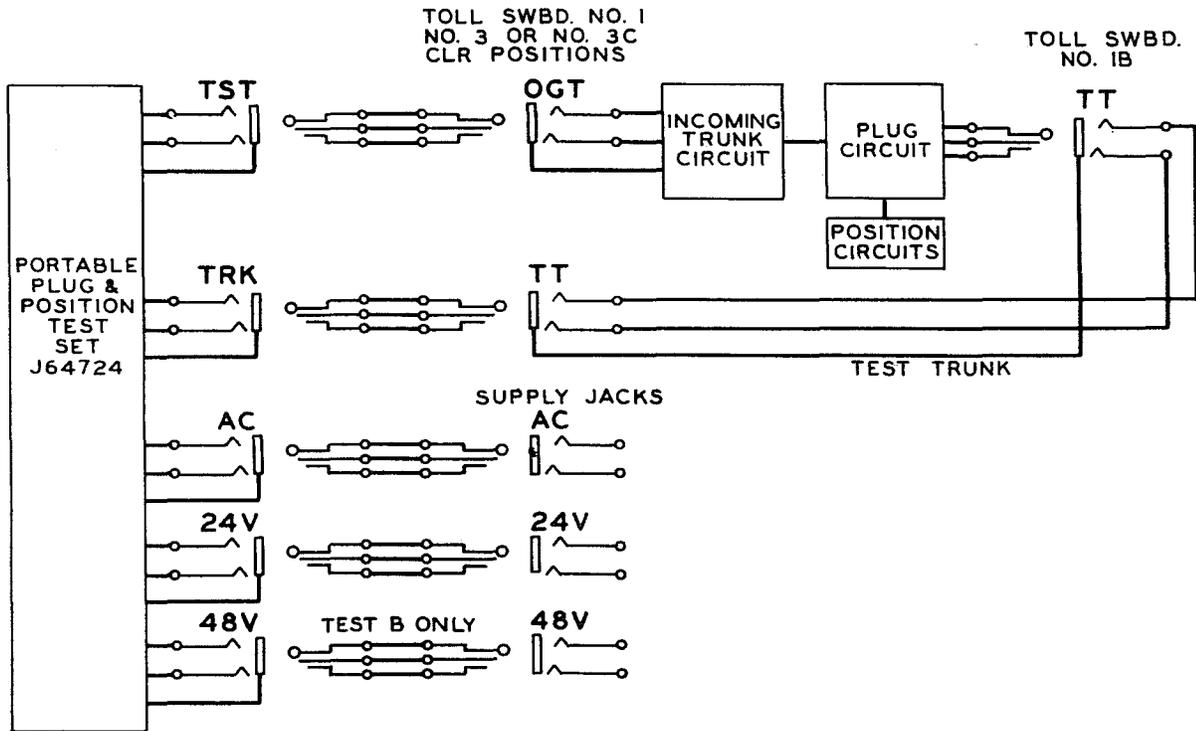

Fig. 1 - Test (A) Trunks from No. 1 CLR Board in Same Bldg. - Without Call Distribution
Test (A) - Trunks from No. 1 CLR Board in the Same Building, Without Call Distribution (See Fig. 1)
Test (B) - Trunks from No. 3 or No. 3C CLR Board in the Same Building, Without Call Distribution (See Fig. 1)